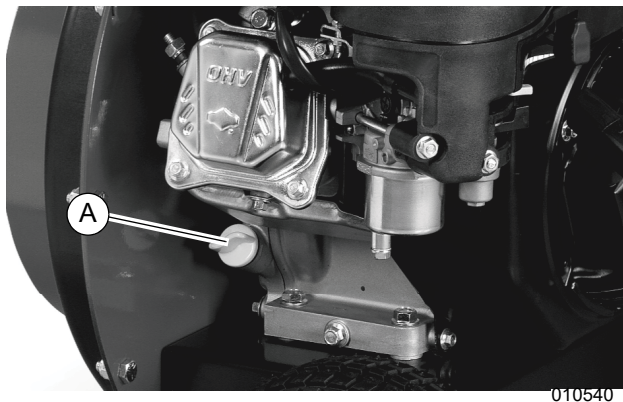

Figure 2-11. Oil Dipstick and Fuel Fill
2. See Figure 2-11. Remove oil dipstick/fill cap (A).